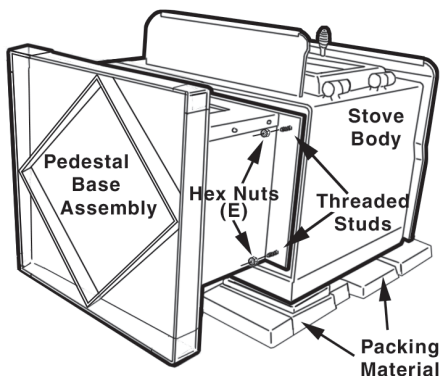

Figure 7 – Attach Pedestal to Stove Body
8. Align four (4) corner mounting studs with holes in pedestal top (Figure 7). Secure with four (4) hex nuts (E).